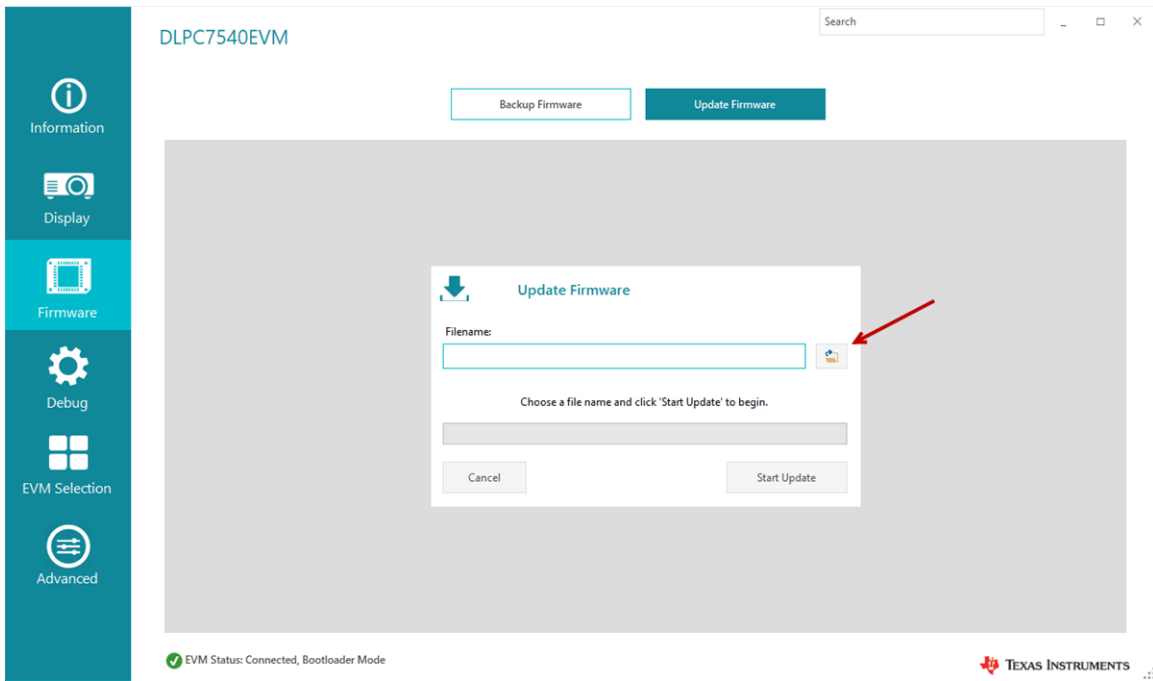

Figure 2-4. Loading the Flash Image
- a. Go to Firmware screen, select Update Firmware tab. Click on the folder icon to browse for the applicable firmware depending on the actual DMD that is connected to DLPC7540EVM. Once firmware image file is selected, click on Start Update Figure 2-4.